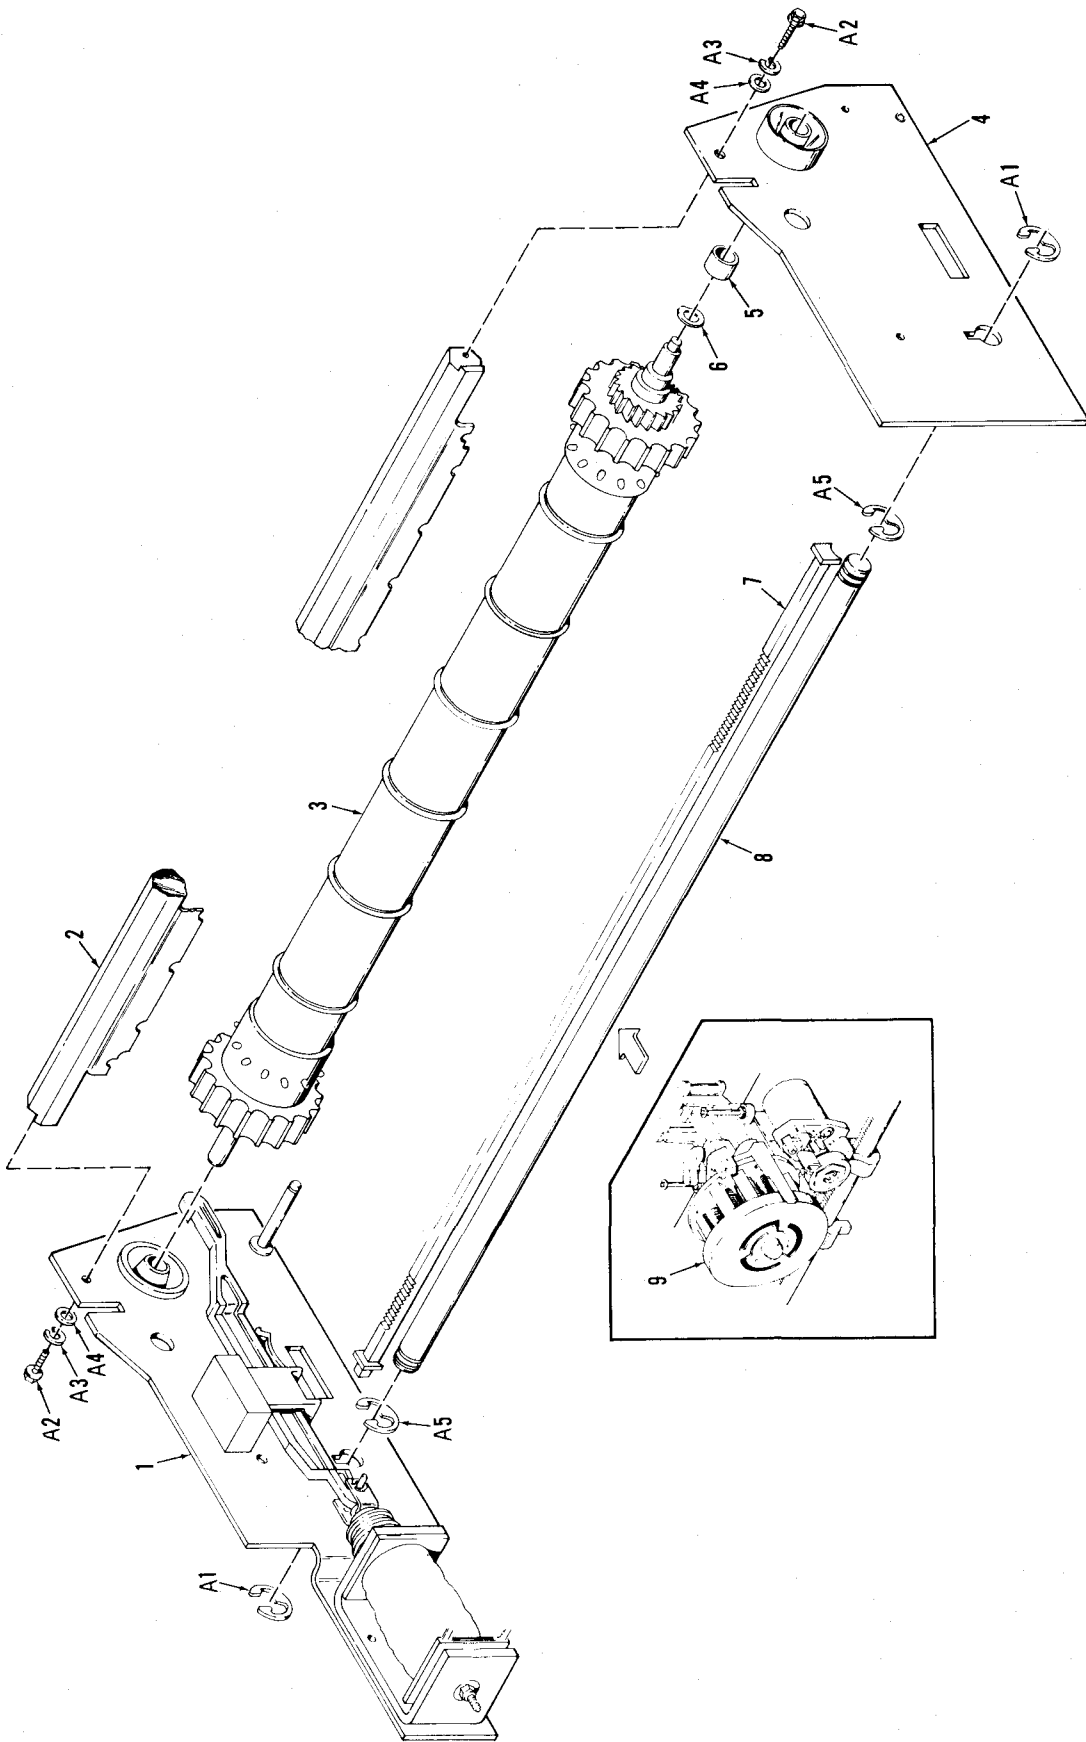

Figure 8-3. MECHANISM ASSEMBLY (SHEET 1)
(Figure 8-3, Sheet 1)
NOTE: The pinned hex platen assembly is made up of items 2.1 through 2.3 which are not called on on Figure 8-3, Sheet 1.